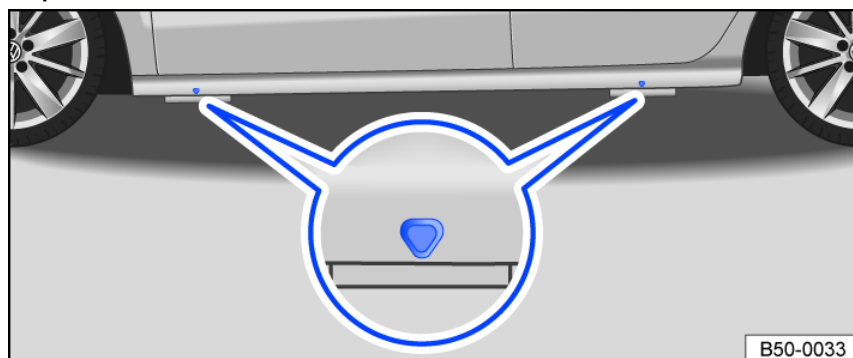

Fig. 215 Mounting points for the vehicle jack.
The vehicle jack must only be positioned at the reinforced areas on the underbody that are located behind the markings on the vehicle body fig. 215. The lift point that is nearest the affected tire should be used ⇒ ⚠.
7. Find the vehicle lift point fig. 215 under the vehicle that is closest to the wheel you will be changing.